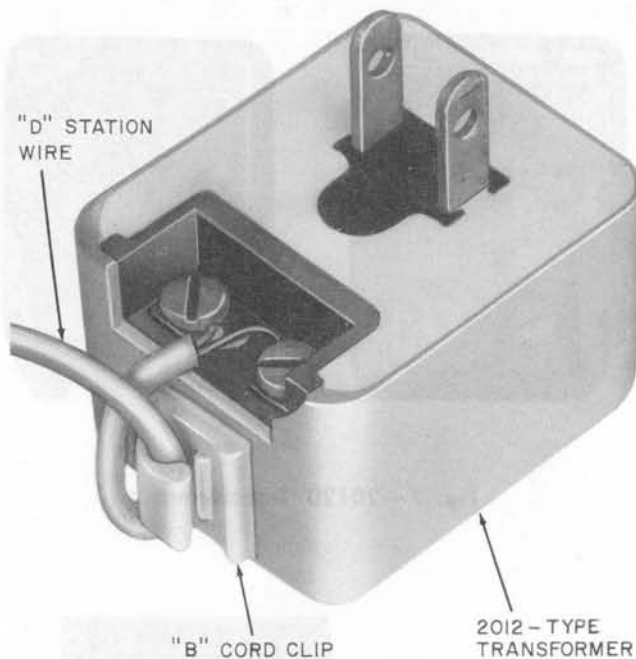

Fig. 3—Cord Clip Used to Secure Station Wire to Transformer
- 1.08 Remove protective paper from adhesive of B cord clip and stick clip to bottom of station transformers as shown in Fig. 3. Terminate D station wire on screw terminals of 2012-type transformer and hook station wire through B cord clip as shown in Fig. 3.